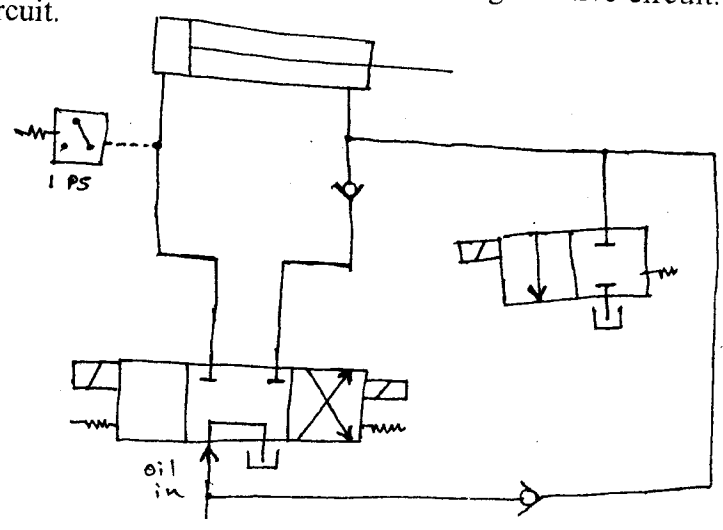

Fig.Q8(a)-1
- 8 a. Figure Q8(a) shows electrical control of regenerative circuit. Explain the working of the circuit. (10 Marks)